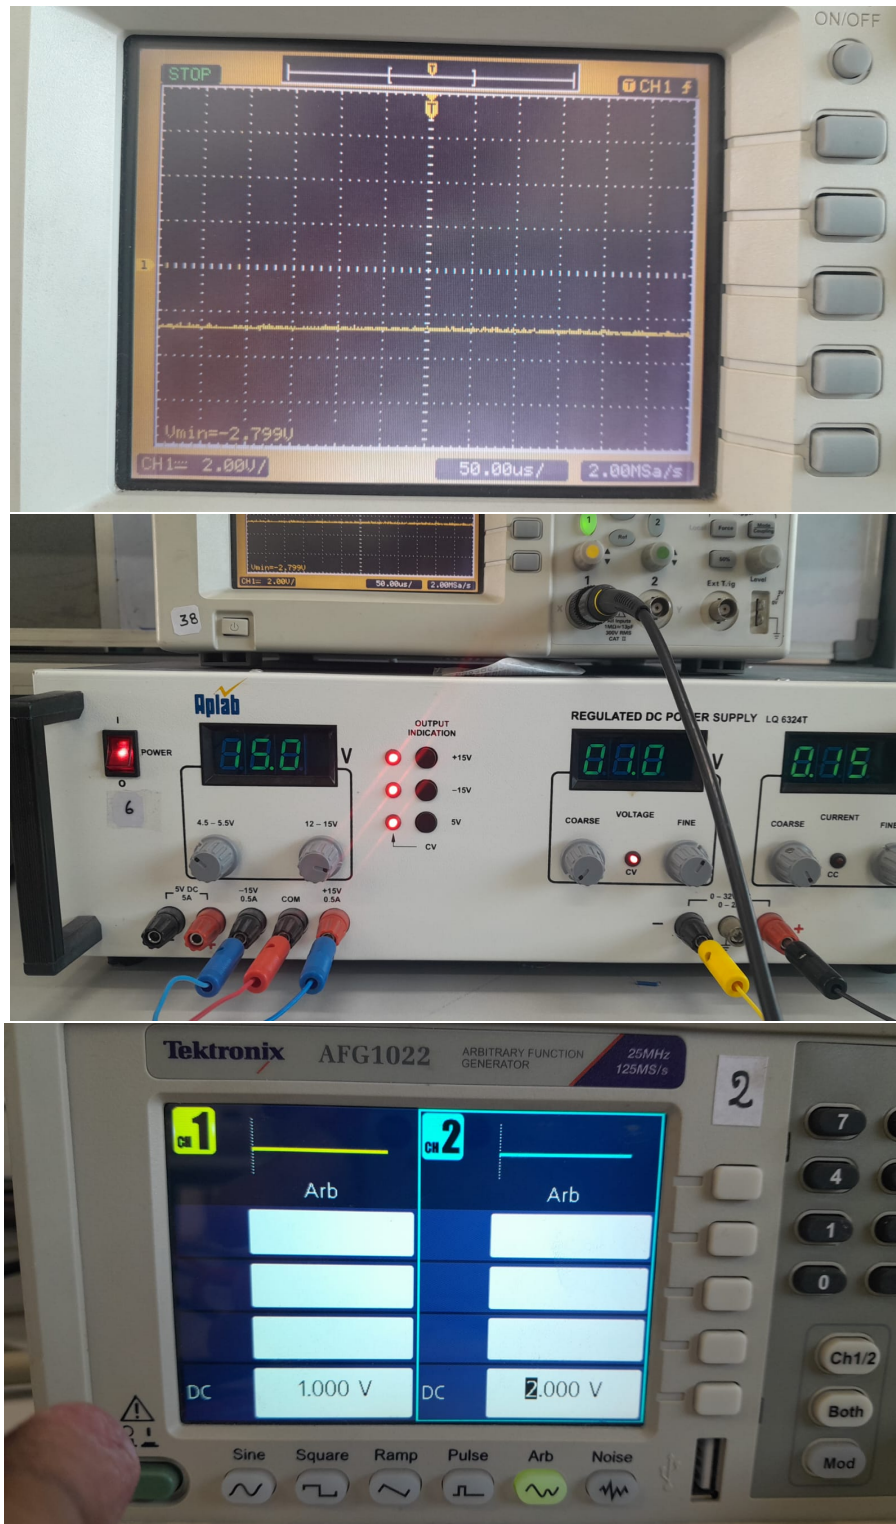

Figure 1: $2V_1 + V_2 - V_3$ (approximately), V_1 , V_2 on the function generator, V_3 from the DC supply (right)
- Connect the circuit as shown in Figure 1.